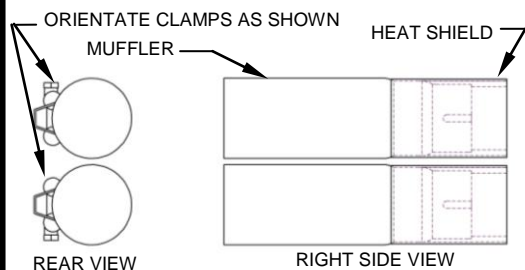

FIGURE 3
13. Slide one supplied clamp part #2761MSC onto each muffler. Refer to Figure 3 for proper alignment.
18. Place the heat shields onto the head pipes and align on mufflers. You may need to loosen the muffler bolts to adjust the position of the muffler so that the heat shields fits tightly against the muffler (see figure 3). Snug the heat shield clamps into place but **DO NOT TIGHTEN**. Rotate the muffler clamp so it doesn't interfere with the heat shield but is still accessible to tighten (see figure 3).